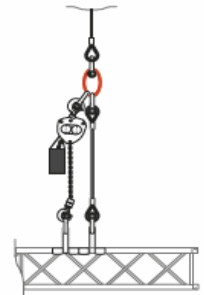

Fig.2
- After assembly and setup operation, the manual chain hoist must be removed from the load ("dead hang") and replaced by a suitable sling (e.g. steel cable) (see Fig. 2).